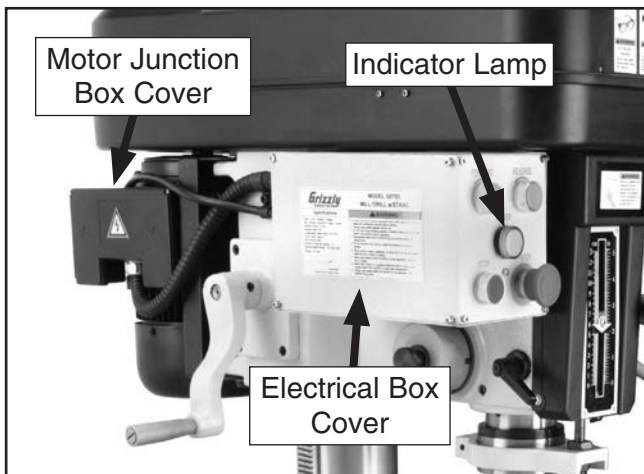

Figure 4. Cover locations.
2. Remove the electrical box and motor junction box covers shown in **Figure 4**.
- Locate the indicator lamp shown in **Figures 4 & 5**. Disconnect the two wires from its terminals, then remove the lamp.